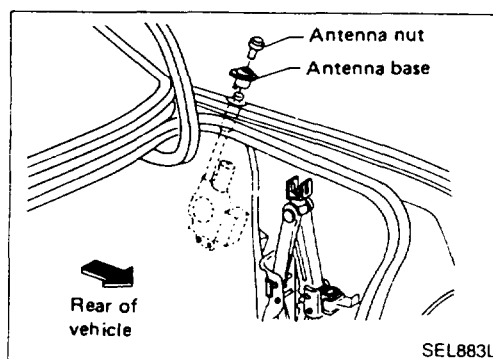

Figure 1
1. Remove antenna nut and base. (Figure 1)